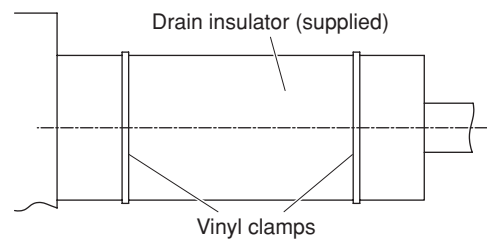

Fig. 3-10b
(2) After checking the drainage, wrap the supplied packing and drain pipe insulator around the pipe, then secure it with the supplied clamps. (Fig. 3-10b)